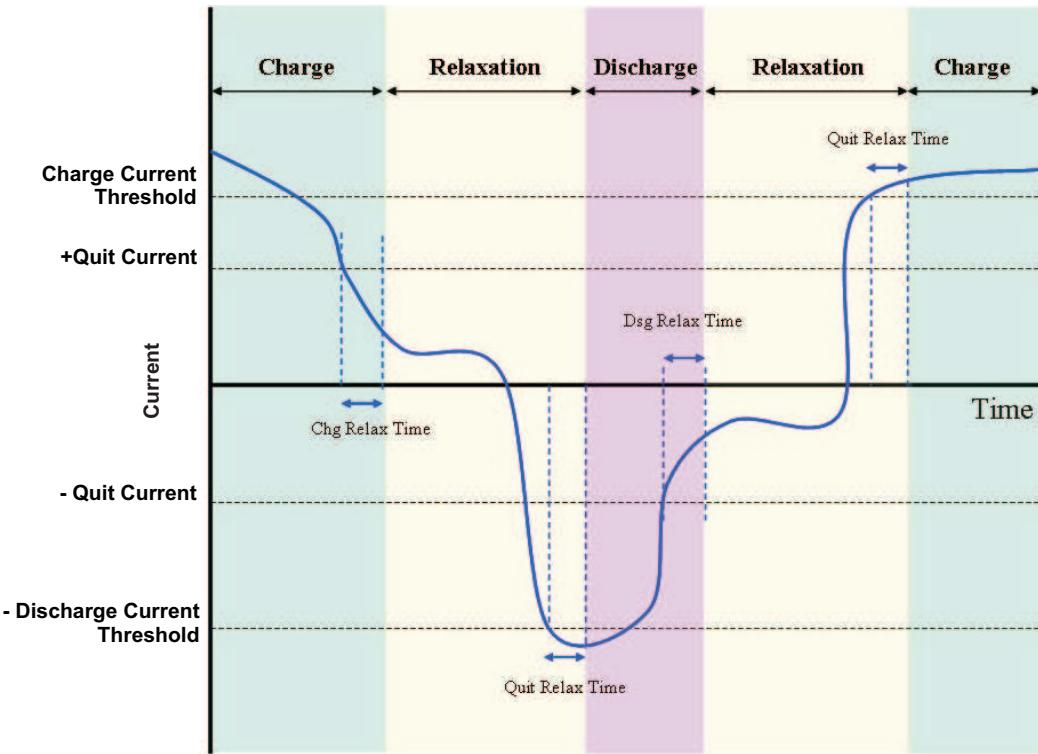

Figure 1. Algorithm Operation Mode Changes With Varying Battery Current
Figure 1 illustrates charge, discharge, and relaxation modes of the battery. The times and current thresholds that are noted in the graph are values that are programmed by the user in Flash memory. As seen in **Figure 1**, relaxation starts after *Chg Relax Time* or *Dsg Relax Time* has elapsed after the pack current measured by the ADC is within $\pm \text{Quit Current}$. The relaxation ends after *Quit Relax Time* elapses following a pack current detected that exceeds either *Charge Current Threshold* or *Discharge Current Threshold*.
- Relaxation mode: the state of the battery when the current is below user-defined *quit current* levels and after a user-defined minimum charge relax time (see Figure 1)